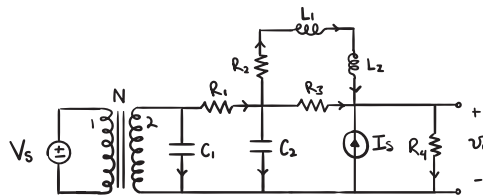

Figure 4.21. a circuit diagram.
1. The electronic system of figure 4.21, voltage and current sources, and transformer with transformer ratio  $N$ .